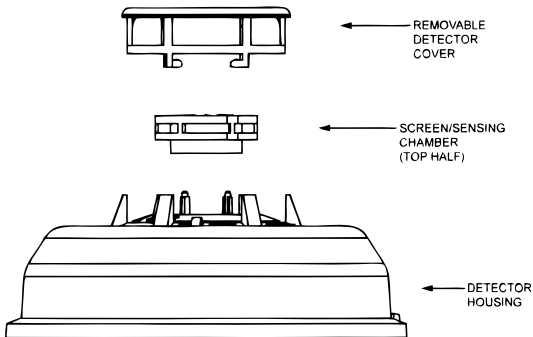

Figure 11: Removing Screen/Sensing Chamber
4. Remove the top half of the screen/sensing chamber by lifting straight up (Figure 11).